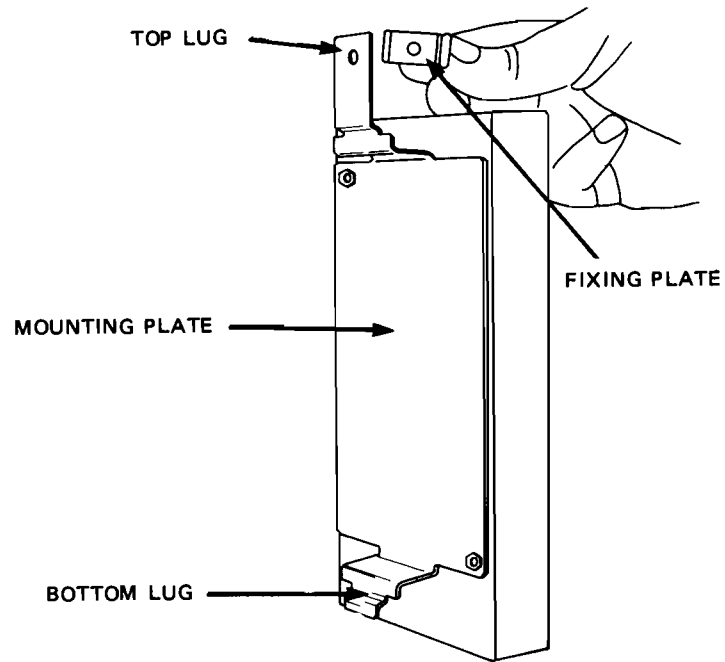

Figure 2-6 Connector Panel Mounting Plate
- b) The mounting plate at the rear of the connector panel is shown in Figure 2-6. The fixing plate must be removed before mounting the connector panel in position.